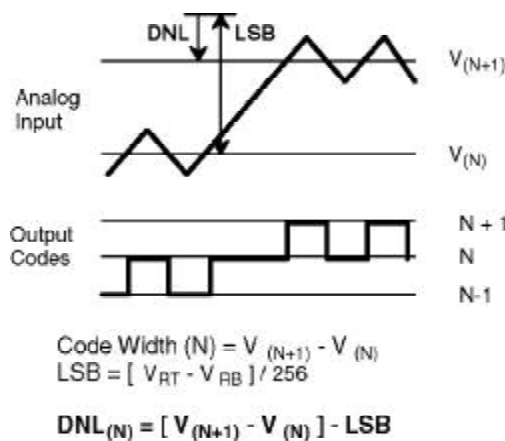
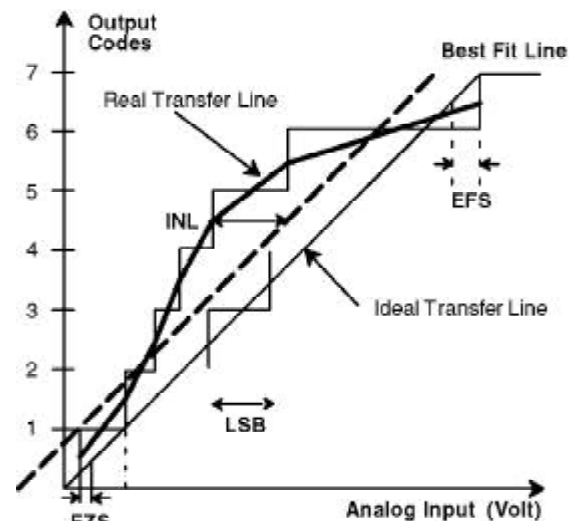

Figure 3. DNL Measurement
Figure 4. INL Error Calculation
- The difference between the measured and the ideal code width ($V_{RE}/256$) is the DNL error (Figure 3). The INL error is the maximum distance (in LSBs) from the best fit line to any transition voltage (Figure 4). Accuracy is a function of the sampling rate (FS).